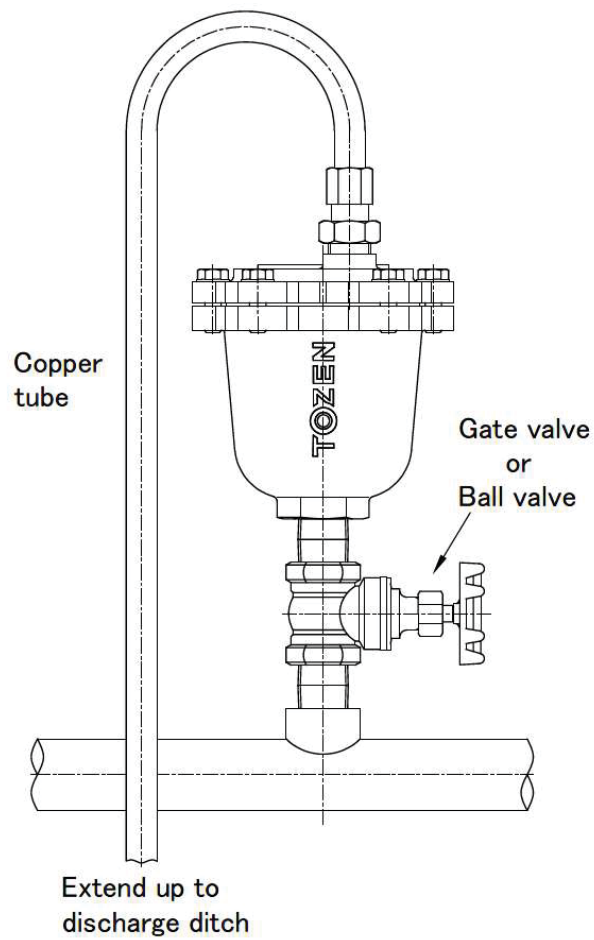

Figure 2
5. Please install a gate valve or ball valve at the inlet for maintenance purposes. (as per Figure 2)
6. A copper tube to be connected from the outlet of the air vent valve up to drainage ditch, to prevent any leakage of the water, if any valve failure. (as per Figure 2)